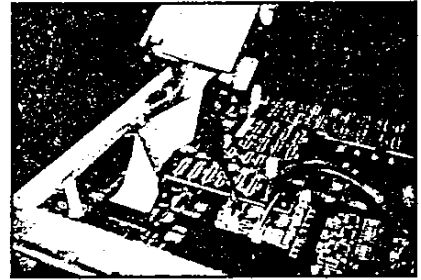

Fig. 3-4. Drive Cable Locations
3.3.1 Position the drive over the PCB and re-connect the ground wire at T4. See Fig. 3-4.